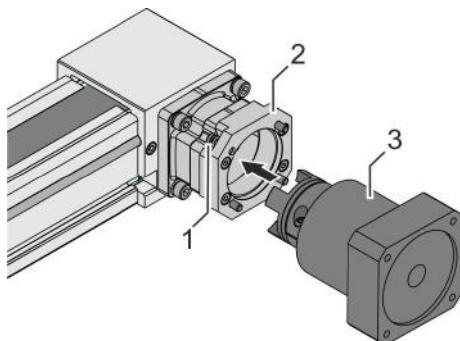

Fig. 21: Assembling the motor
10. ➤ Place the motor (Fig. 21/3) on the motor plate (Fig. 21/2).
11. ➤ Tighten 4 screws (Fig. 21/1) alternating diagonally: